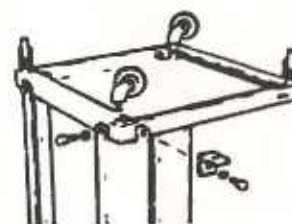

Fig.3.
4. Assemble base to legs (see Fig.3) using 6 screws, 6 nuts and 12 washers (do not fully tighten screws). Push four castors firmly into sockets in underside of base, or alternatively, the machine can be fitted with four bolting down brackets, which can be secured, to the base (see Fig.3). Turn machine right way up onto a level floor, check machine stands firmly without wobble, and tighten all screws.